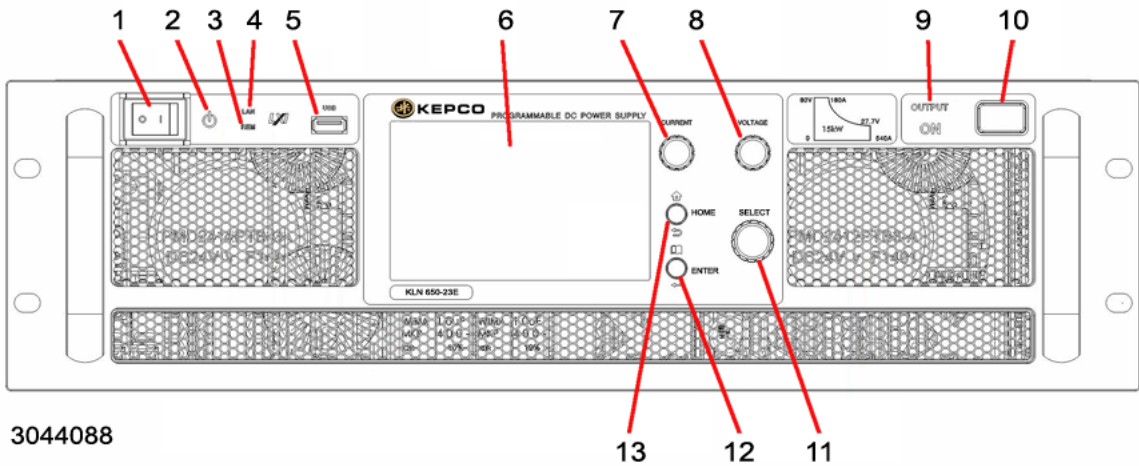

FIGURE 3-1. KLN EXT SERIES FRONT PANEL^(‡)
The following paragraphs describe basic operation of the front panel controls, indicators and switches, as well as the color display/touch screen, which are used to configure and operate the power supply. This includes a description of the front panel (PAR. 3.2.1), color display/touch-screen (PAR. 3.2.2), how to turn the unit on (PAR. 3.2.3) and how to change the power-up defaults (see PAR. 3.2.1). An explanation of the KLN EXT menus (PAR. 3.2.4) provides basic techniques used to operate the power supply. Operator convenience functions (LCD background and contrast, and the audible beep) are described in PAR. 3.4.15. Refer to Table 3-1 and Figure 3-1 for a description of front panel controls and indicators. PAR. 3.3 explains how to use the front panel Menu to access all other locally accessible functions.
The following paragraphs describe basic operation of the front panel controls, indicators and switches used to configure and operate the the power supply^(†). Refer to Table 3-1 and Figure 3-1 for a description of front panel controls and indicators.
1. To turn the power supply on, set **POWER ON/OFF** switch (1, Figure 3-1) to | (on) position. The power supply goes through a self test that exercises the Analog/Digital and Digital/Analog converters. An error 70 will be generated if the unit fails self-test.
A. FRONT PANEL CONTROLS. Press the **VOLTAGE** or **CURRENT** control (see Figure 3-1), respectively. The value for voltage or current is shown on the display. The least significant digit is blinking. Rotate the **VOLTAGE** or **CURRENT** control to change the value of the highlighted digit. Press the respective **VOLTAGE** or **CURRENT** control to highlight the next significant digit. Repeat as needed, then Press **ENTER** to confirm or **HOME** to cancel.
A. FRONT PANEL CONTROLS. Press the **SELECT** control (see Figure 3-1). The least significant digit of the value for power starts blinking. Rotate the **SELECT** control to change the value of the blinking digit. Press the **SELECT** control to highlight the next significant digit Repeat as needed, then press **ENTER** to confirm or **HOME** to cancel.